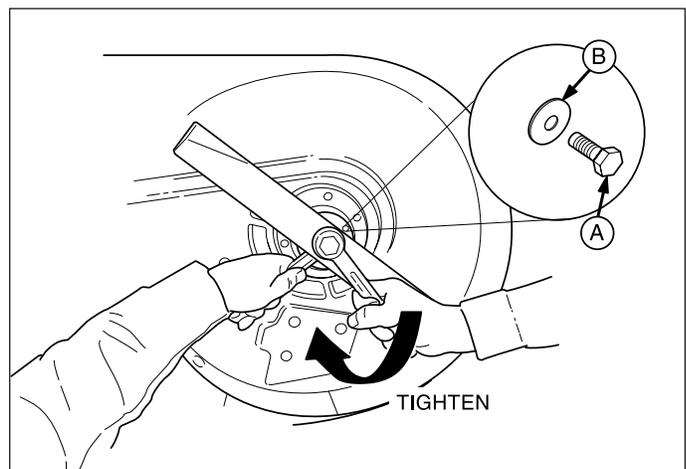

Figure 18. Check Blade Torque
3. Check that blades are installed with the tabs pointing up toward deck as shown in Figure 18. Torque bolts to 70 ft.lbs. (94 N.m.).